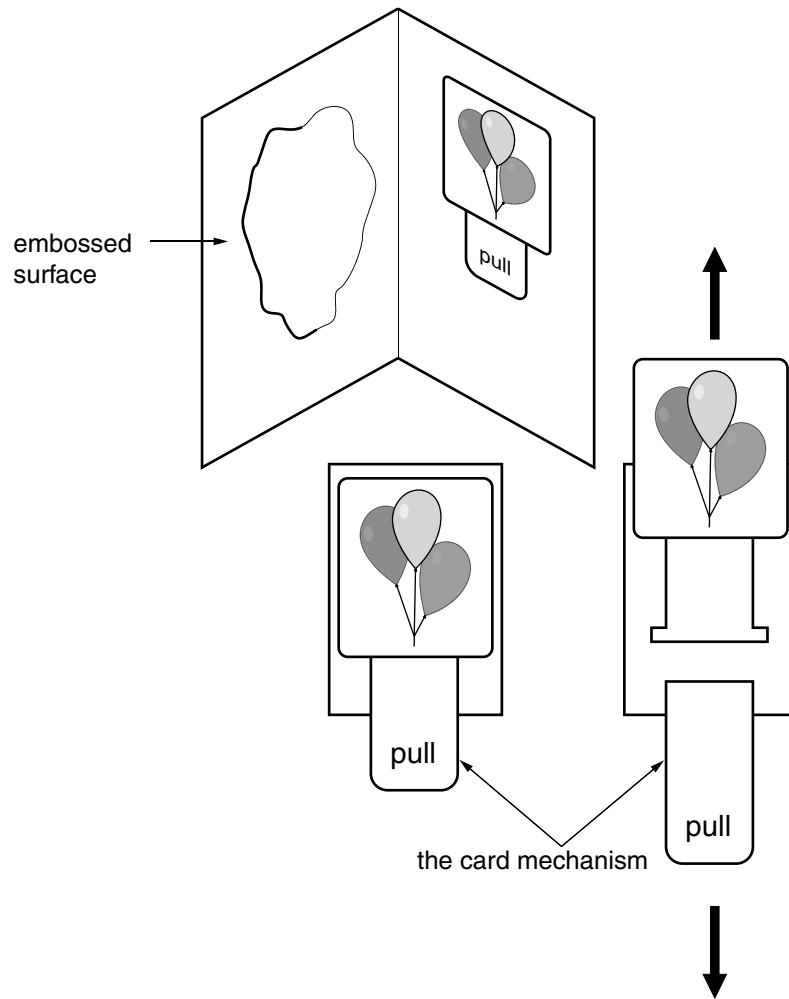

Fig. 5
- 5 Fig. 5 shows a design for a greetings card that includes a pop-up mechanism.
- (b) Use notes and sketches to show the construction of the pop-up mechanism that would produce the movement shown in Fig. 5. [8]